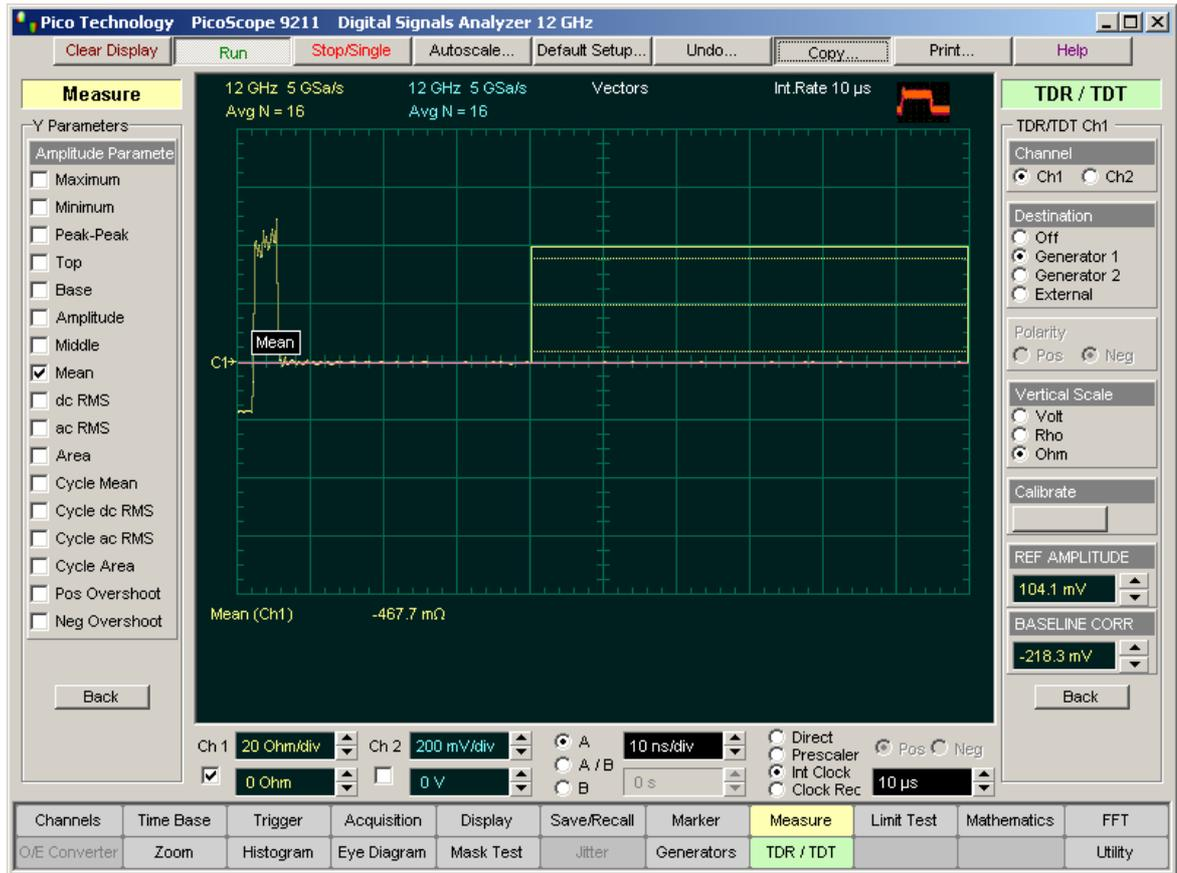

Figure 5
6. Click Ohm in the Vertical Scale menu. See Figure 5.
Fig. 5 shows that the ohm value is near 0 ohms when transmission line is shorted. The Mean measurement shows -467.7 mohm .